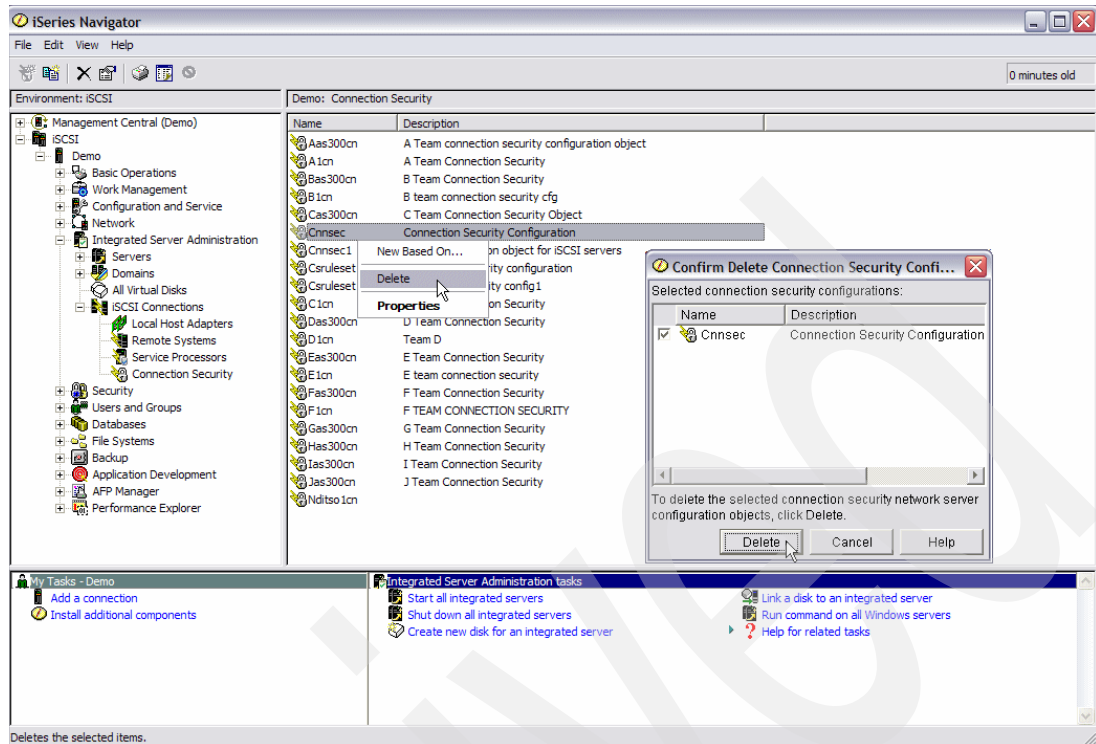

Figure 6-57 Delete CNNSEC in iSeries navigator
- Expand **YourSystem** → **Integrated Server Administration** → **iSCSI Connections**. See Figure 6-57 on page 205.